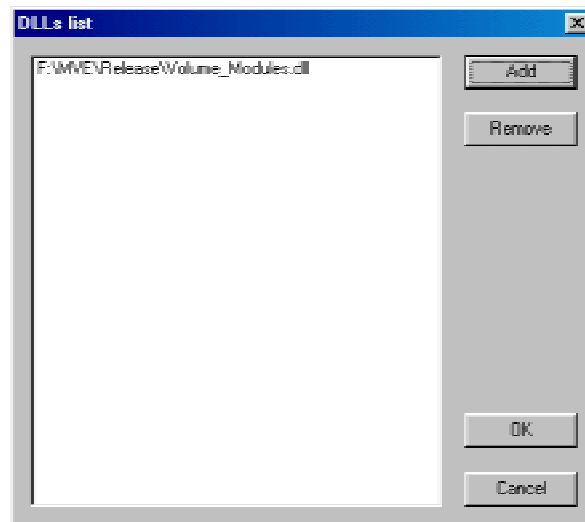

Figure 2.2 : External modules dialog
- 2) The other way to add modules into MVE is through the menu *Options – Modules* dialog, where you can manually add new (external) modules. This option is aimed at modules which are either non-standard or have to be located in different directories (Figure 2.2).